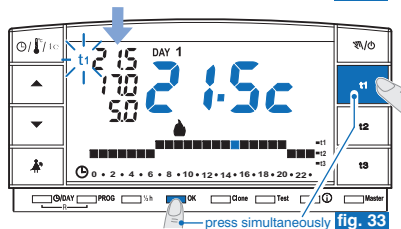

fig. 33
- Press **OK** and the key that corresponds to the selected value (**t1** or **t2**) simultaneously within 8 seconds. Once confirmation is given for unblocking, the temperature digits will stop blinking (example in fig. 33).